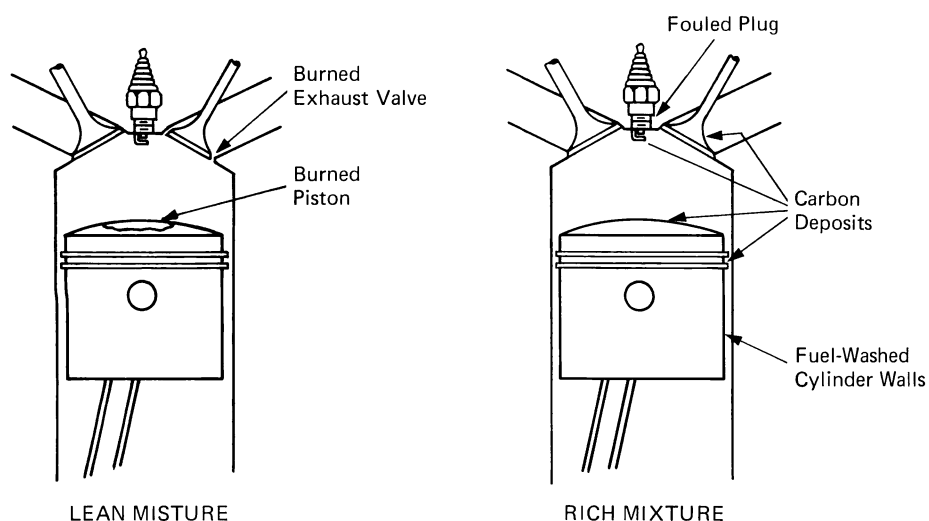

Fig. 10-21 Rich and lean mixture problems
**Mixture.** As with any other variable, there are hazards to avoid when setting and resetting the air-fuel mixture. A lean charge creates high engine temperatures with excess oxygen around to burn the red hot engine parts such as pistons and valves. A rich mix causes deposits of unburned carbon, dilutes engine oil, and fouls spark plugs. Follow the recommendations in the carburetion section (Unit 15) to avoid the results of either extreme (Fig. 10-21).